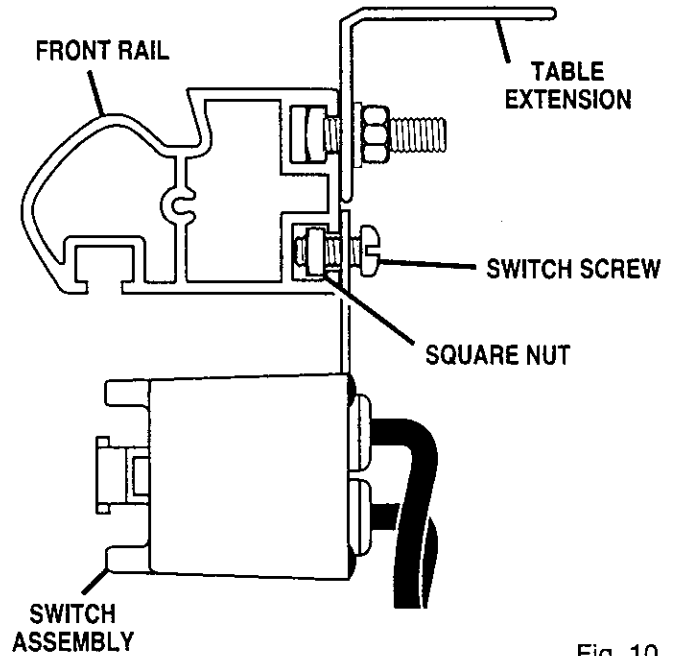

Fig. 10
**Note:** If the fasteners were removed from the switch, see instructions in your table saw Owner's Manual for mounting the switch or refer to Figure 10.